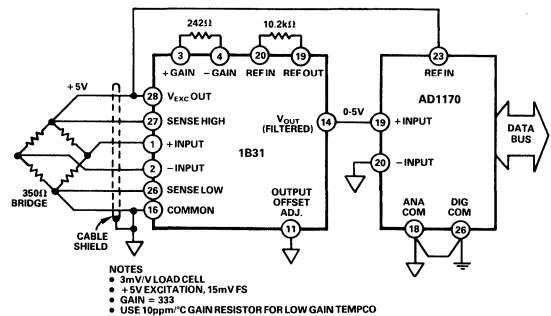

Figure 19. Pressure Transducer Data Acquisition Using 1B31 and AD1170
**Pressure Transducer Data Acquisition System:** Figure 19 shows a two module solution for microcomputer based data acquisition using a 1B31 and an AD1170 18-bit A/D converter. A 3mV/V pressure transducer (e.g. Dynisco 800 series) is interfaced to a 1B31 set up with a gain of 333.3 to give a 0 - 5V output. The regulated excitation is +5V, and for ratiometric operation it is also used as the voltage reference input for the AD1170. An initial ECAL command establishes the voltage excitation as the full-scale input of the AD1170 and periodic calibration cycles keep the converter tracking the reference input. This configuration yields very high CMR (168dB @ 60Hz) enhanced by the 1B31 low pass filter and the integrating conversion scheme of the